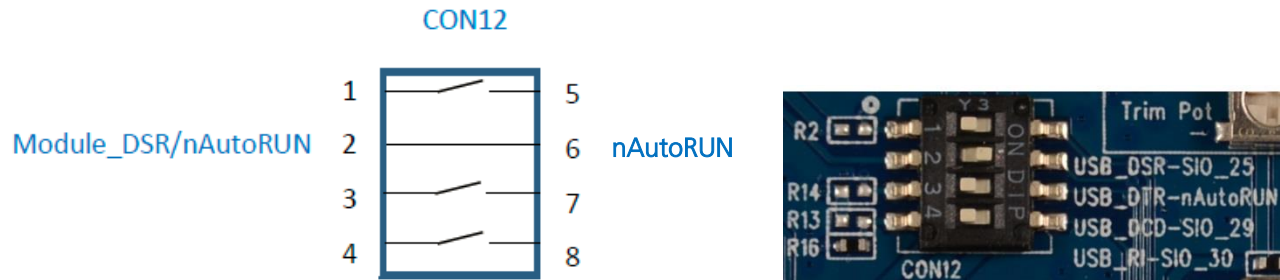

Figure 6: Micro DIP switch CON12 closed (nAutoRUN controlled by PC)
- CON12 (pin 2-6) **must** be CLOSED (in ON position) to allow the PC (using uWTerminal) to control nAutoRUN (pin 3 on BT900); with no jumper fitted to J6 (see Figure 6).
**Note:** The additional lines of the DIP switch CON12 are not currently utilised and need to remain open, as shown in Figure 6.